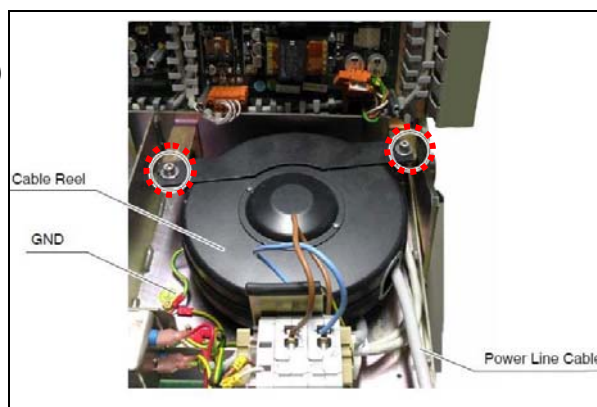

Figure 9
- (7) Remove the fixing screws of the cable reel (see dotted circle marks in figure 9) and disconnect the wires: the GND wire and the wires coming from the reel to the line circuit breaker.